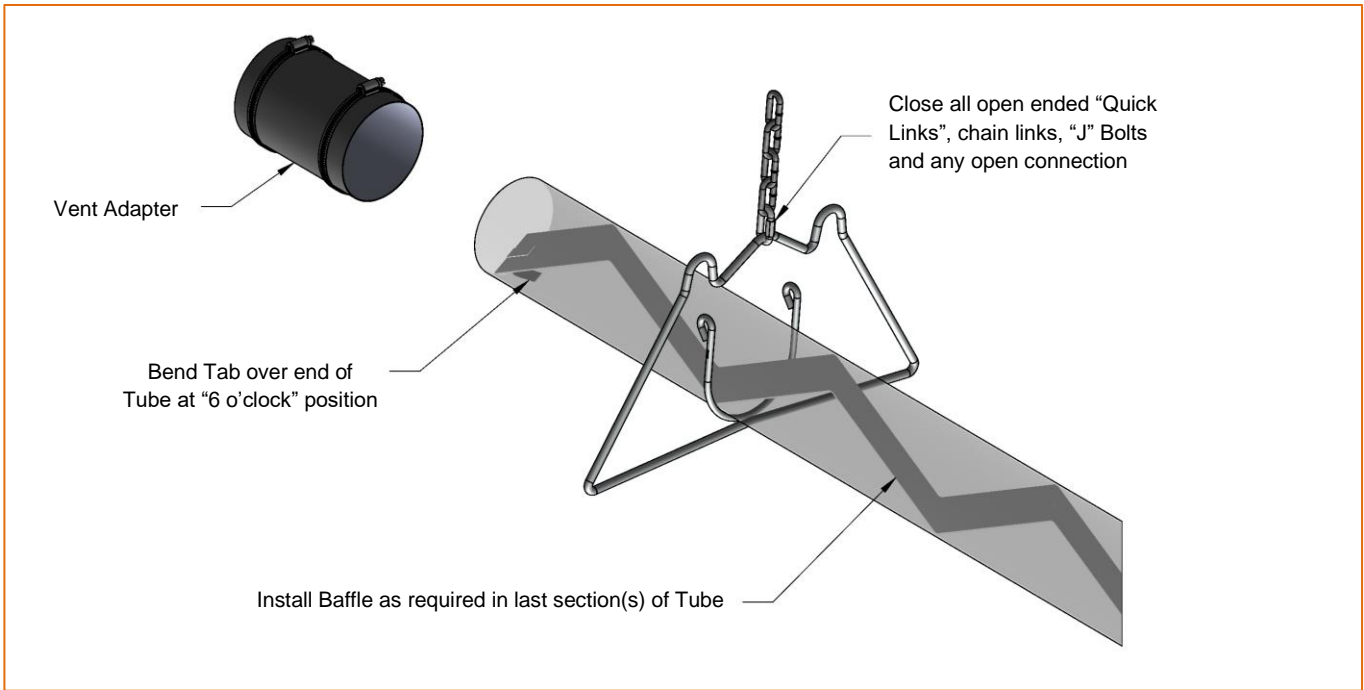

Figure 11: Baffle Installation
- If required for your heater model (refer to Table 1), install the baffle at the end of the heat exchanger. The small tab on the baffle is folded over the end of the tube and clamped in place by the vent connector and vent system; refer to Figure 11.